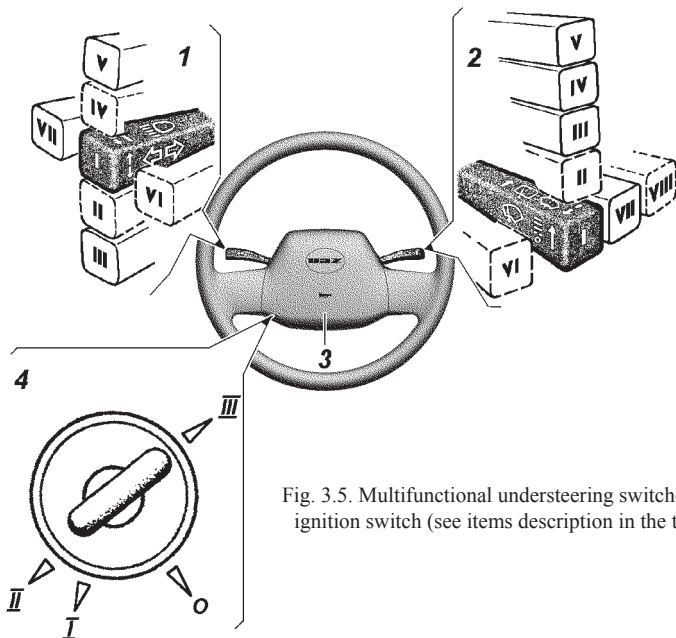

Fig. 3.5. Multifunctional understeering switches and ignition switch (see items description in the text):
- 2 — ignition switch (Fig. 3.5);
- 4 — multifunctional understeering switches (see Fig. 3.5);
Multifunctional understeering switches and ignition switch (Fig. 3.5) are as follows: